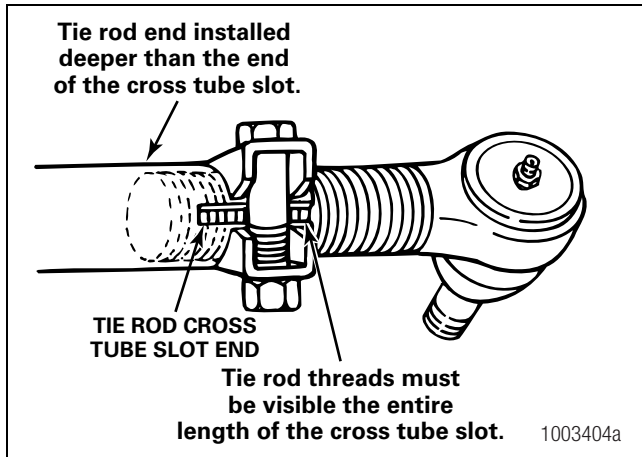

Figure 5.11
7. Check that the tie rod end is threaded correctly into the cross tube and installed deeper than the end of the cross tube slot. The tie rod end must be visible the entire length of the cross tube slot. Figure 5.11.